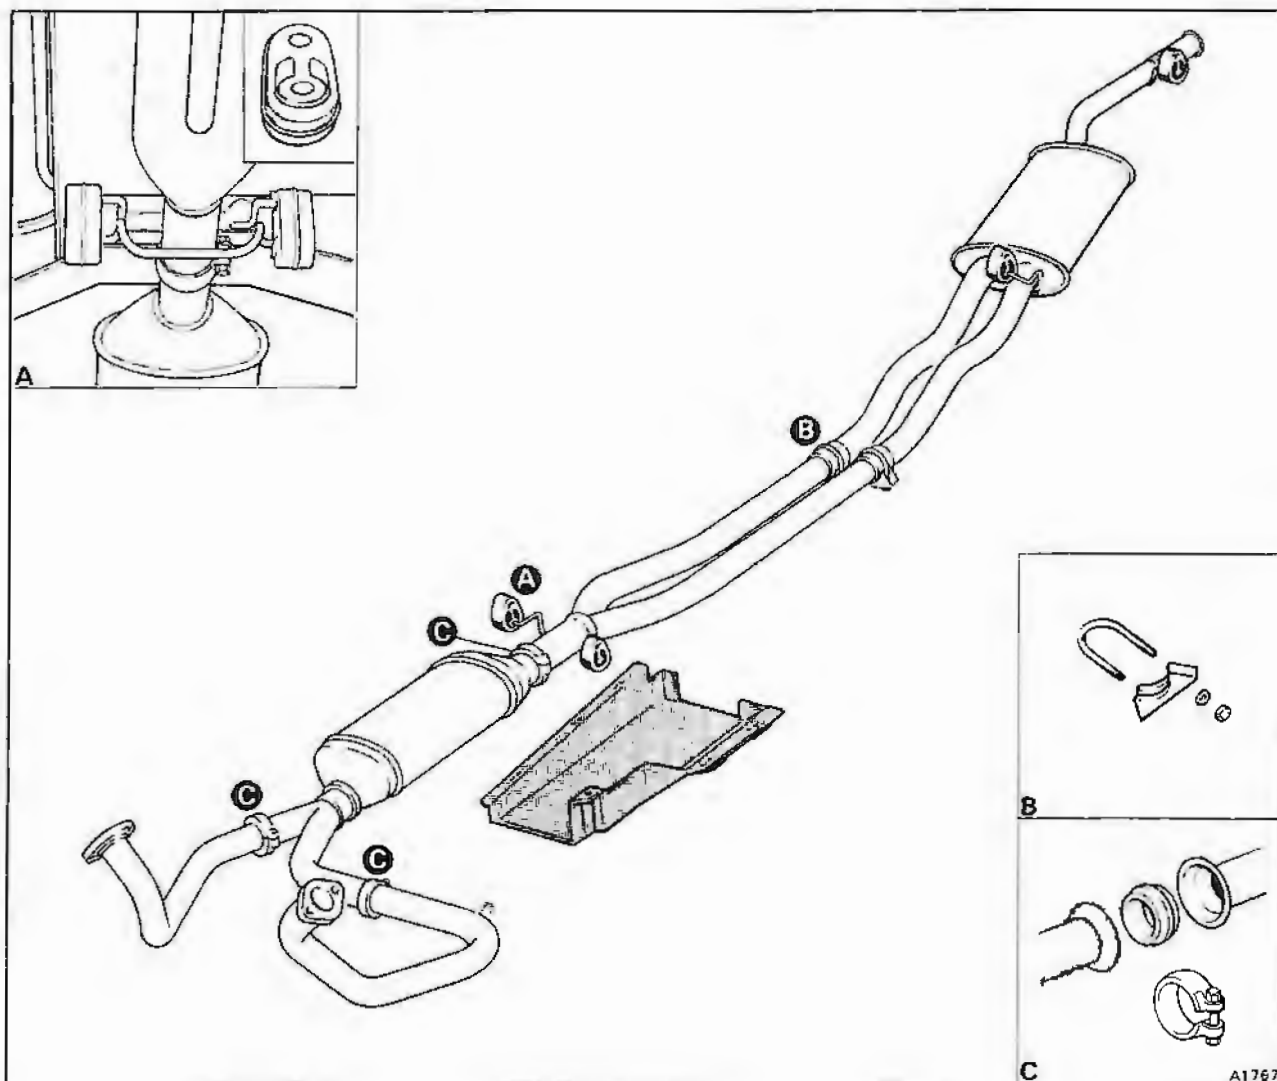

Fig. Q5-3 Exhaust system and grass-fire shield Naturally aspirated cars other than those conforming to a Japanese specification
Cars other than those conforming to a Japanese specification, have a grass-fire shield fitted beneath the catalytic converter only, as shown in figure Q5-3.
6. Refer to figures Q5-3 and Q5-4 for cars other than those conforming to a Japanese specification.